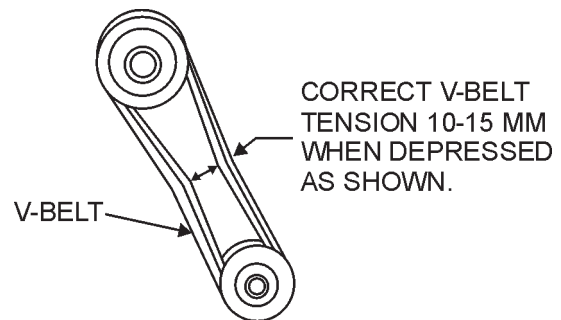

Figure 8. V-Belt Tension
2. The V-belt tension is proper if the V-belt bends 10 to 15 mm (Figure 8) when depressed with finger at midway between the clutch and vibration pulley shafts.